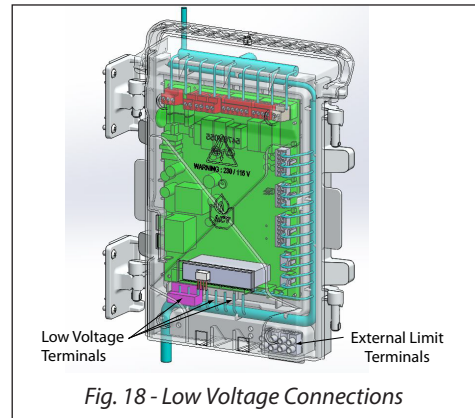

Fig. 18 - Low Voltage Connections
An indirect water heater sensor is prewired to low voltage terminals X4-1&2 located at the bottom of the CTRLMax Control module as shown in *Fig. 18 on page 32*.
3. Connect the external limit wires to the Manual Reset Limit or Auto Reset Limit low voltage terminals located on the lower right corner of the CTRLMax control module housing as shown in *Fig. 18 on page 32*.
1. Connect the system temperature sensor wires to low voltage terminals X5-3&4 located at the bottom of the CTRLMax control module as shown in *Fig. 18 on page 32*.